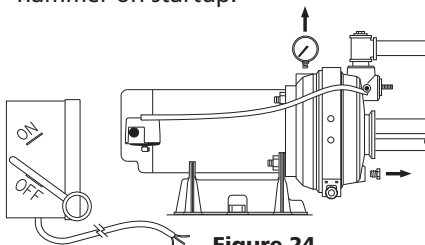

Figure 24
1. Disconnect power to motor (See Figure 24).
3. Remove pressure switch tube from barbed fitting on pump body. Remove pressure gauge and drain plug and allow pump to drain (See Figure 24).